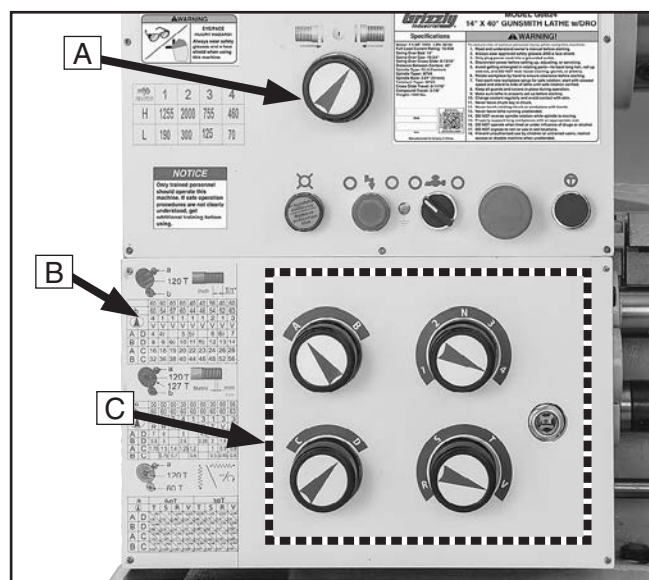

Figure 69. Power feed controls on the headstock.
Use **Figures 69–70** and the following descriptions to understand the power feed controls.
- A. Feed Direction Dial:** Selects the direction of carriage travel for power feed relative to the rotation direction of the spindle. When the dial is positioned as shown in **Figure 69**, the carriage will move left (toward the spindle), or the cross feed will travel toward the rear of the lathe when the spindle is rotating counterclockwise (or toward the front of the lathe). When the dial is positioned in the opposite direction, the carriage will move right (toward the tailstock), or the cross feed will travel toward the front of the lathe when the spindle is rotating clockwise (or toward the rear of the lathe).
The feed rate chart (see **Figure 69** on previous page for location) displays the settings for the headstock feed controls for feed rates.